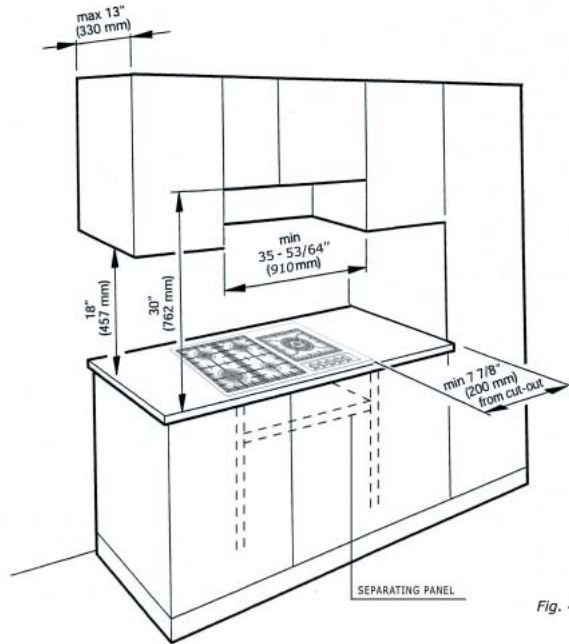

Fig. 4.2
4. A separating panel shall be provided under the cooktop as described in fig. 4.2.